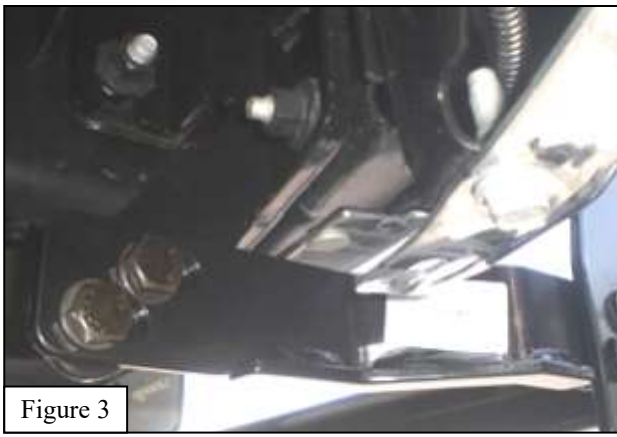

Figure 3
4. Loosely attach the Lower Mounting Brackets (Items 8-9) to the Frame Mounting Brackets (Items 6-7) using (4) M12 hex head bolts, (8) M12 flat washers, (4) M12 lock washers, and (4) M12 hex nuts. See **Figure 3** for reference.